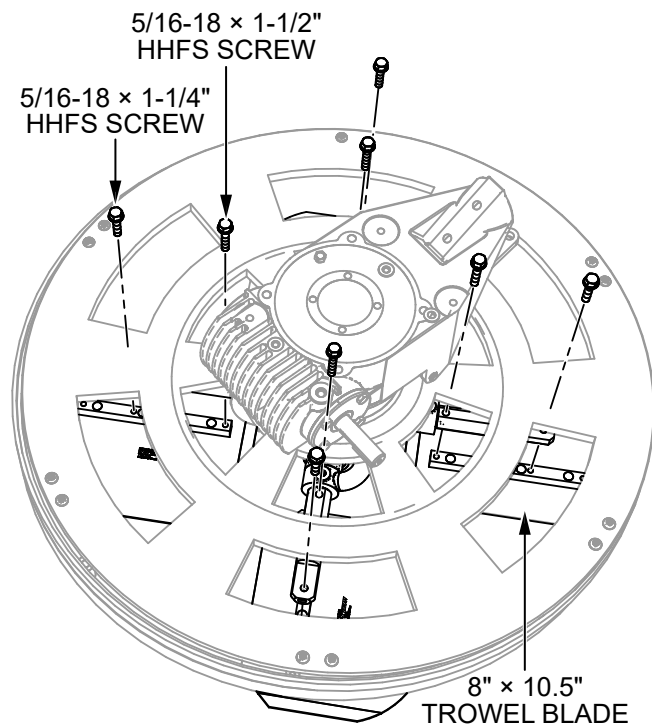

Figure 21. 10.5-Inch Trowel Blade Removal
1. Remove and retain the four 5/16-18 × 1-1/4" HHFS screws and four 5/16-18 × 1-1/2" HHFS screws securing the 8" × 10.5" trowel blades to the spider assembly (Figure 21).